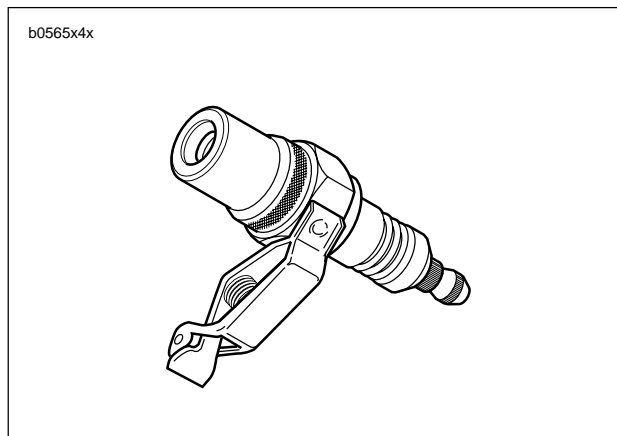

Figure 4-38. Spark Tester (Part No. HD-26792)
1. See Figure 4-38. A SPARK TESTER (Part No. HD-26792) must be used to verify adequate secondary voltage (25,000 volts) at the spark plug.